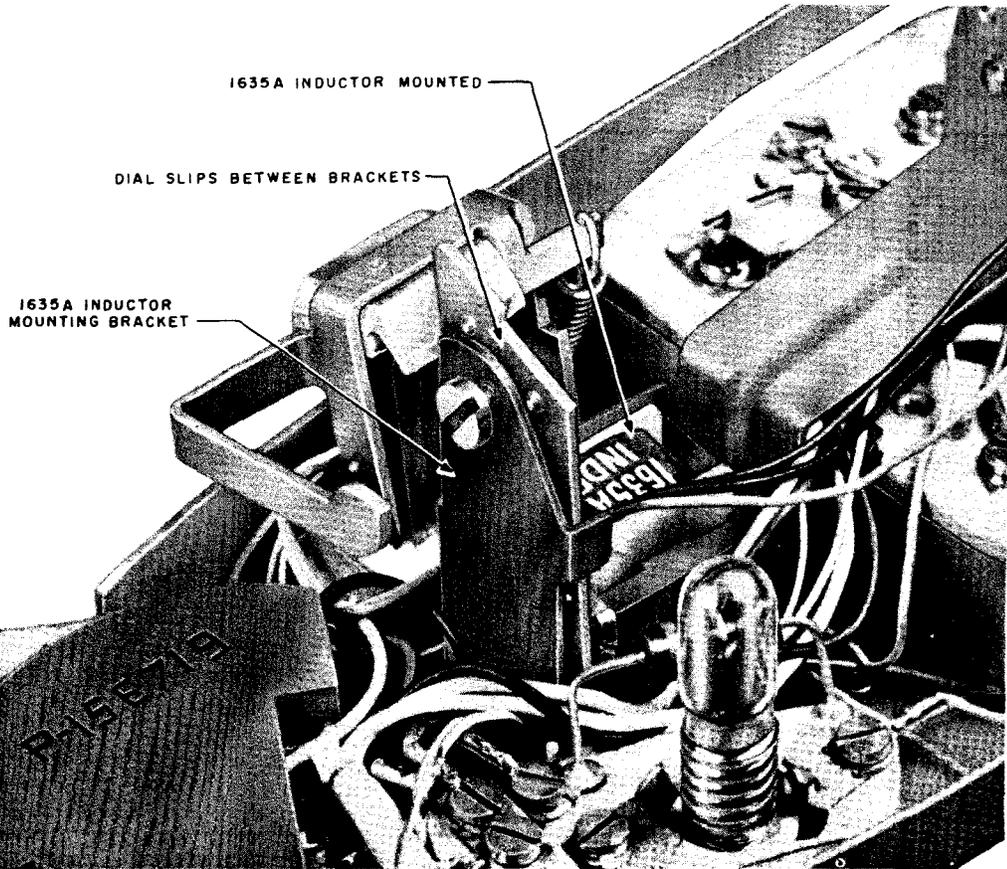

Fig. 7 — 1635A Inductor Mounted in 701B Telephone Set
**2.09** To install the 1635A inductor, follow steps 1 and 2 of 2.08. Then remove left screw from dial mounting bracket. Place inductor as shown in Fig. 7. Replace screw through hole in inductor bracket and connect leads. Replace the dial making sure the left dial mounting fork is between the two brackets.